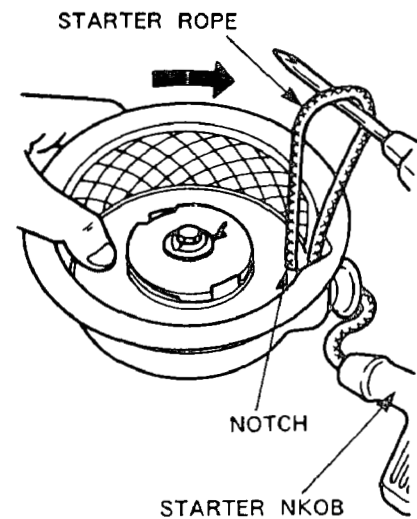

FIG. 79
- (1) Remove the recoil starter from the engine with a box spanner.
- (2) Pull the starting knob and pull out the starter rope for 30 to 40 cm. Firmly press the reel with a thumb as shown in Fig. 79 so that the reel should not make reverse turn at the place where the reel notch comes to the outlet of starter rope. Pull out the starter rope to the inside of recoil starter with a screwdriver.
- (1) Pull the starting knob 2 or 3 times, and pull out the starter rope a little.
- (2) Pull the starting knob, and pull out the starter rope all the way long.
- a) If the starter rope remains left in the reel or the starter rope does not return at all, immoderate strain is imposed on the spring. So rewind the starter rope 1 or 2 times as per instruction in Fig.79.